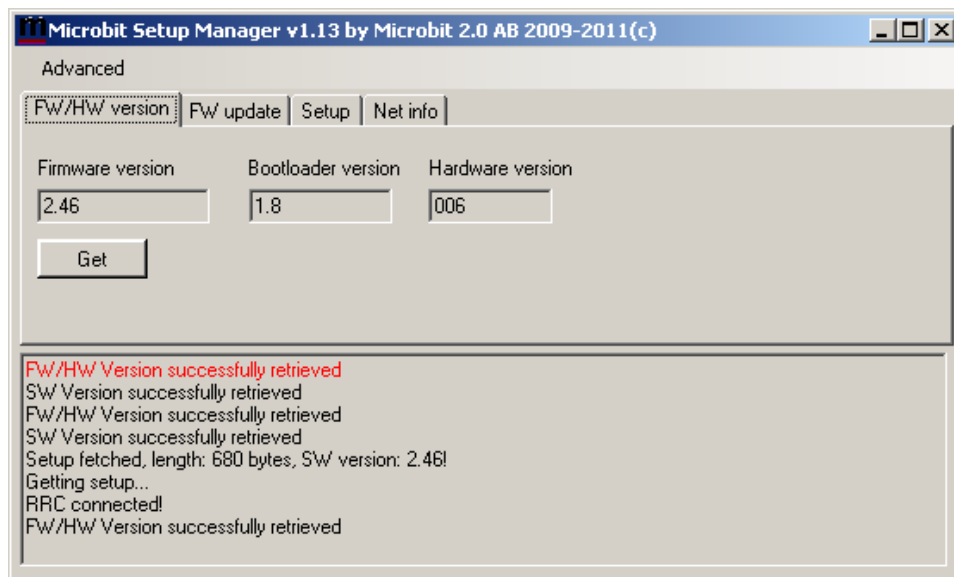

Figure 2
3. Launch the Microbit Setup Manager you installed. You should see a window similar to Figure 2 reporting that your computer is communicating with the RR-1256 unit and that it has successfully retrieved the firmware (FW) and software version (SW).